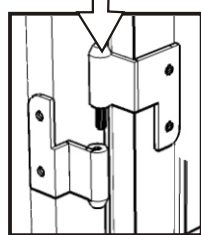

Figure 2
Attach the Doors (O) and (P) to the side panels and middle panel slide the door lift hinges into the side panel and middle panel lift hinges. (See figure 2)
Slide Q5 into the grooves in Q3 and Q4. Be sure to push the Q5 all the way forward so it meets the Q1. (See figure 2)
(Figure 2)